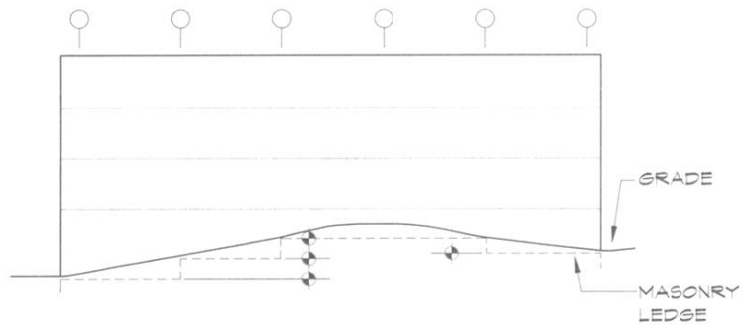

Figure 04.32 Elevation at grade.
- Extent of building elements below grade. Represent with dashed lines. (Figure 04.32)